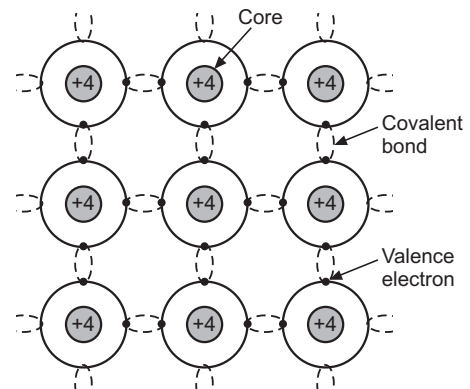

Fig. 1.4 : Atomic structure of Ge and Si crystals
- Fig. 1.4 shows a simplified two-dimensional representation of crystalline structure of Germanium or Silicon crystal.